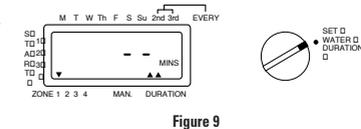

Figure 9
3. Press **ENTER**. Station indicator steps to **Station 2**. Display shows blinking **--**. (See Figure 9.)